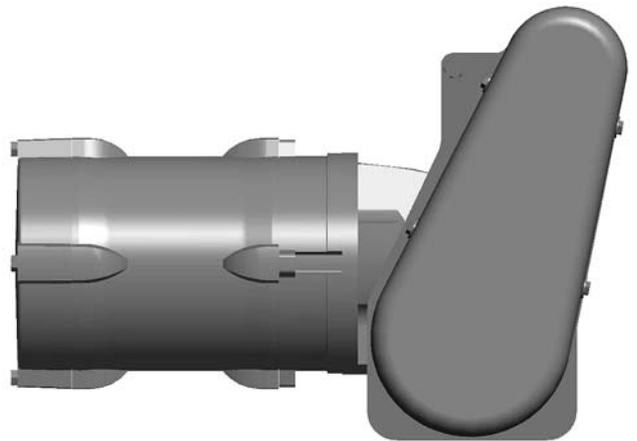
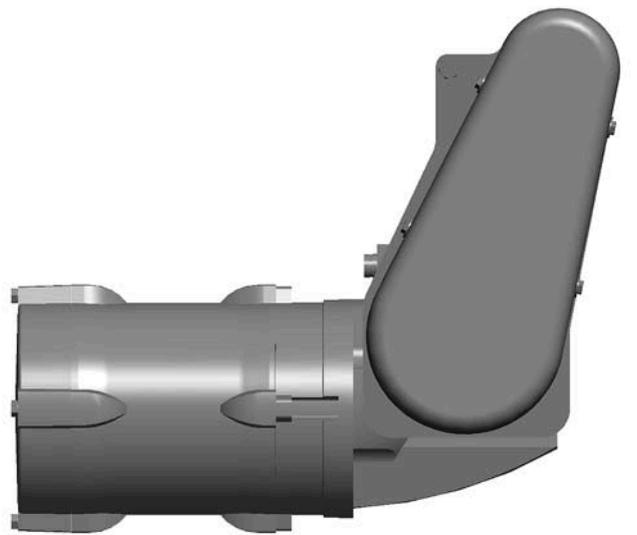

**Figure 24**
**Figure 25**
1. Install mounting plate (**Figure 24, item 1**) onto drive end of conveyor with two screws (**Figure 25, item 1**).